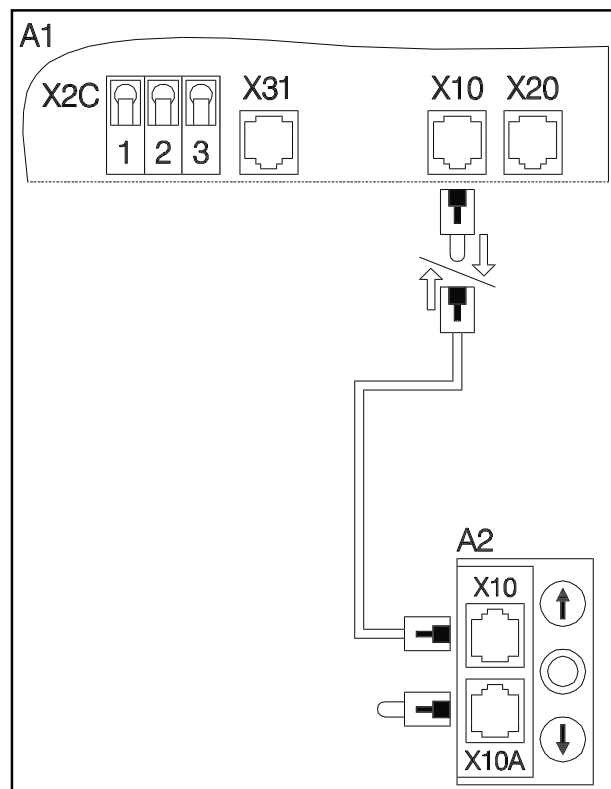

Fig. 4: Connection of membrane keypad
- Connect membrane keypad (A2) and control unit acc. to fig. 4.